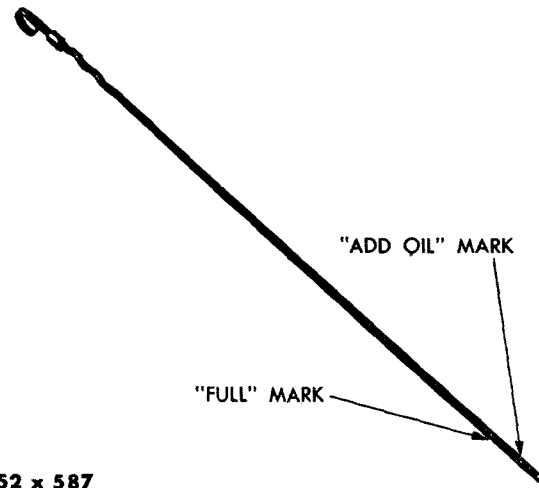

Fig. 4 — Engine Oil Indicator (Dip Stick)
- (2) Check condition of the storage battery. The electrolyte liquid in the battery must be at least $\frac{3}{8}$ inch above the plates. Check all electrical connections for tightness.
- * (3) Check the oil level in the crankcase by means of oil level indicator shown in Figure 4. The oil level indicator has two markings: "Full" and "Add Oil." If the oil level is between the "Full" and "Add Oil" marks, it will not be necessary to add oil. If the oil level is even with, or drops slightly below the "Add Oil" mark, not more than one quart of oil should be added.
- * (4) Fill fuel tank with regular grade gasoline, and open valves (if used) in the fuel lines.
- * (5) Refer to the Lubrication and Maintenance Schedule, Section IX, and lubricate as required.
- (6) Remove obstacles that would interfere with free rotation of moving parts. Clear away all tools or other potential obstructions.
- (7) Check electrical connections against the wiring diagram.